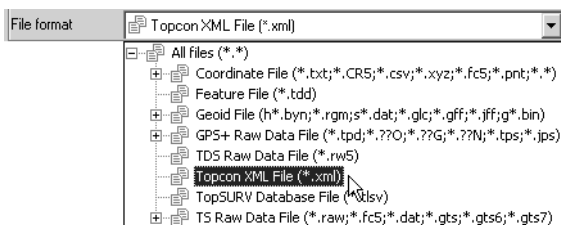

Figure 3-43. File Format List
- Select the File format (Figure 3-43).